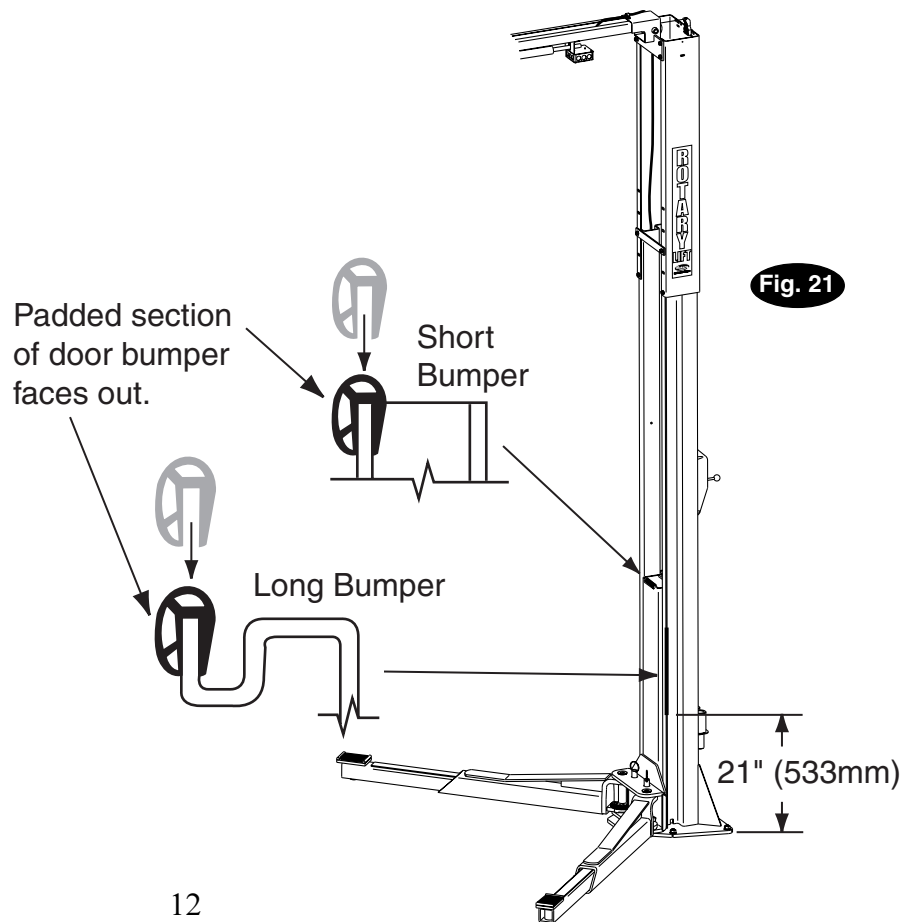

Fig. 21
- 1) Press long bumper on column edge, Fig. 21.
- 2) Press short bumper on top edge of carriage tube, Fig. 21.